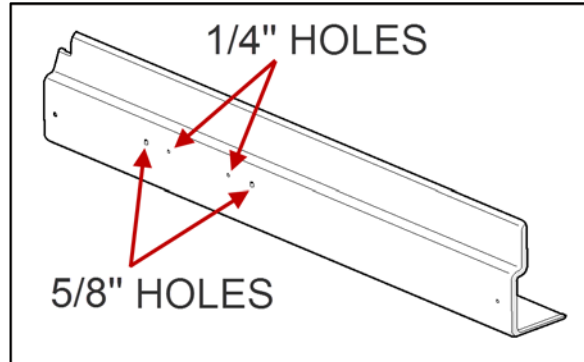

Figure 28
44. Drill two holes $\varnothing 1/4"$ and two holes $\varnothing 5/8"$ (Figure 28).